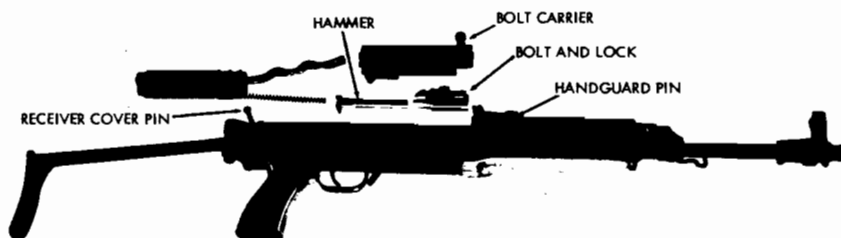

Figure 41. Vz 58V assault rifle, field-stripped.
b. Pull the receiver cover pin, located at the top rear of the receiver (fig. 41), to the right as far as possible. Press the receiver cover slightly forward and lift up its rear end. Ease the receiver cover rearward and remove it along with the hammer and the driving springs.
c. Pull the operating handle fully rearward. Then, with an upward motion, rotate the bolt carrier and the bolt from the receiver. Caution: The bolt and lock (fig. 41) might fall free from the carrier. If the bolt and lock do not fall free, pull the hammer (fig. 41) to the rear and lift off the bolt and
d. Pull the handguard pin (fig. 41) (located at the front of the rear-sight base) to the right as far as possible and lift off the handguard. Grasp the shaft of the gas piston and force it rearward against its spring; when the piston head is clear of the gas cylinder, tilt the piston up and remove it. Pull the piston return spring from the rear-sight base.